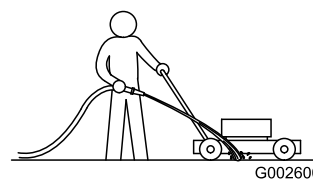

Figure 49
2. With the engine running and the blade engaged, spray a stream of water in front of the **right** rear wheel (Figure 49).